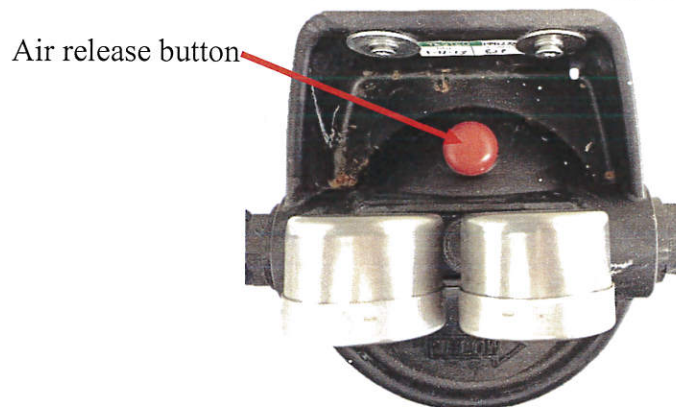

Figure 15: Bleed any trapped air.
6.3.5.2. **Bleed Air From System.** Bleed any trapped air from the system by pressing the Air release button identified in Figure 15: